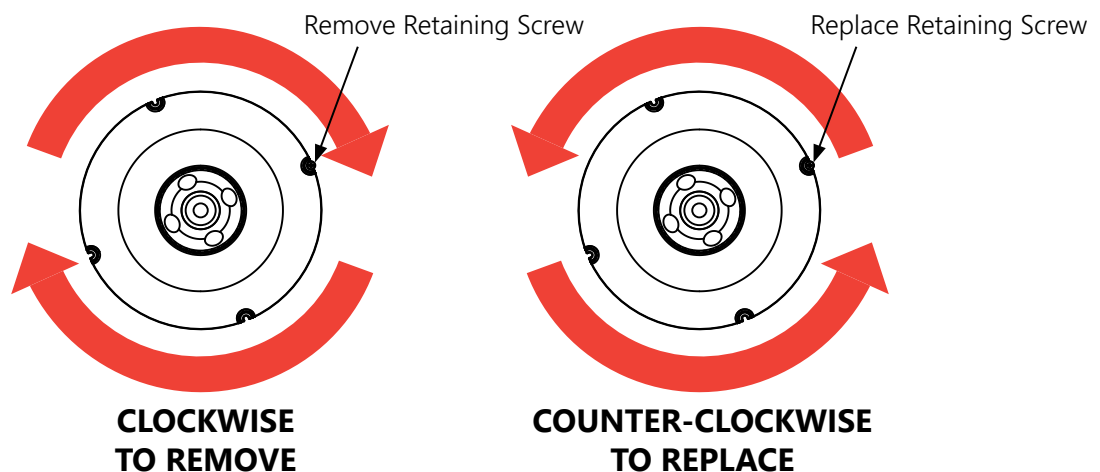
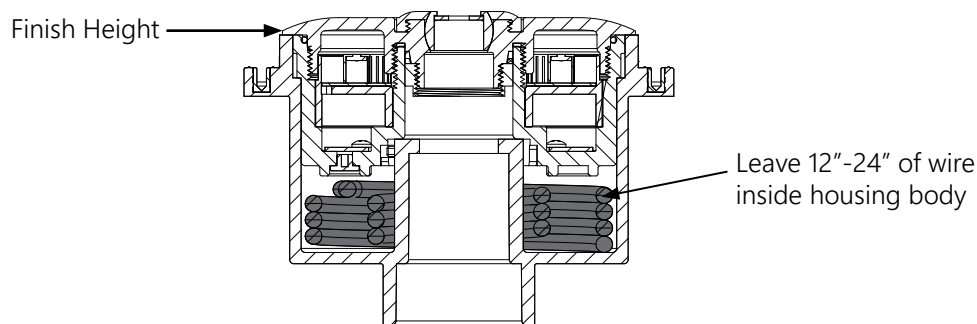

FIGURE 5: LED MODULE INSTALLATION
FIGURE 6: EXTRA WIRE IN HOUSING
C.2.2 The 12VAC transformer (not included) is to be located in a waterproof enclosure. The conduit from the Brilliant Wonders Bubbler should be connected to the transformer enclosure. Pull the cable from the Brilliant Wonders Bubbler through the conduit to the transformer enclosure (not included). Leave about 12-24" of wire in the Brilliant Wonders Lighted Bubbler's inner housing (this is to allow for servicing of the LED module - Figure 6). Pull the rest of the cable through to the transformer box. The bubbler unit can be mounted onto the hub by winding the excess cable around the inner hub inside the housing and lining up the LED module with the guide pins on the hub. Secure the light by pushing the light downward onto the hub and twisting the light unit **COUNTER-CLOCKWISE** (Figure 5). Secure the unit by replacing the LED Module Retaining Screw.